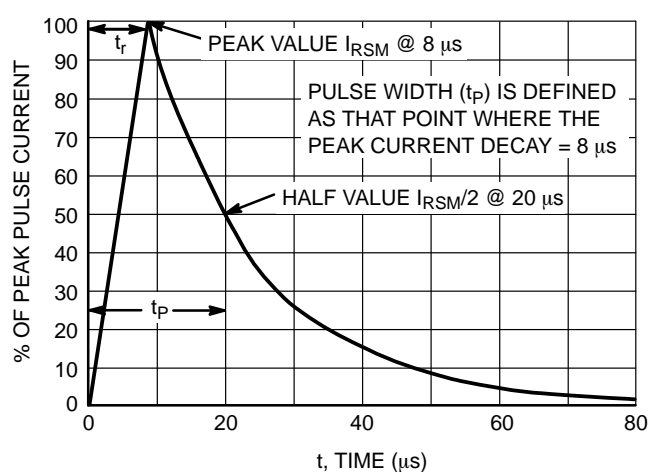

Figure 2.  $8 \times 20 \mu s$  Pulse Waveform
1. Non-repetitive current pulse per Figure 2
- Surge current waveform per Figure 2